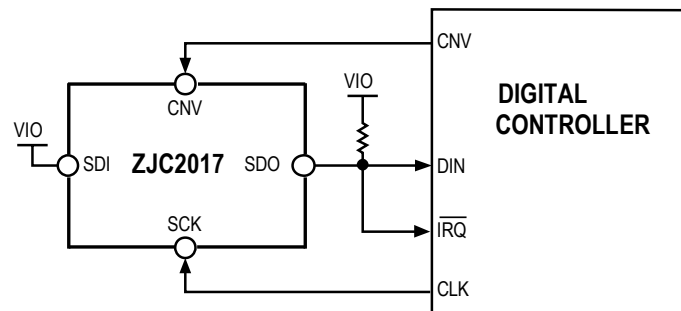
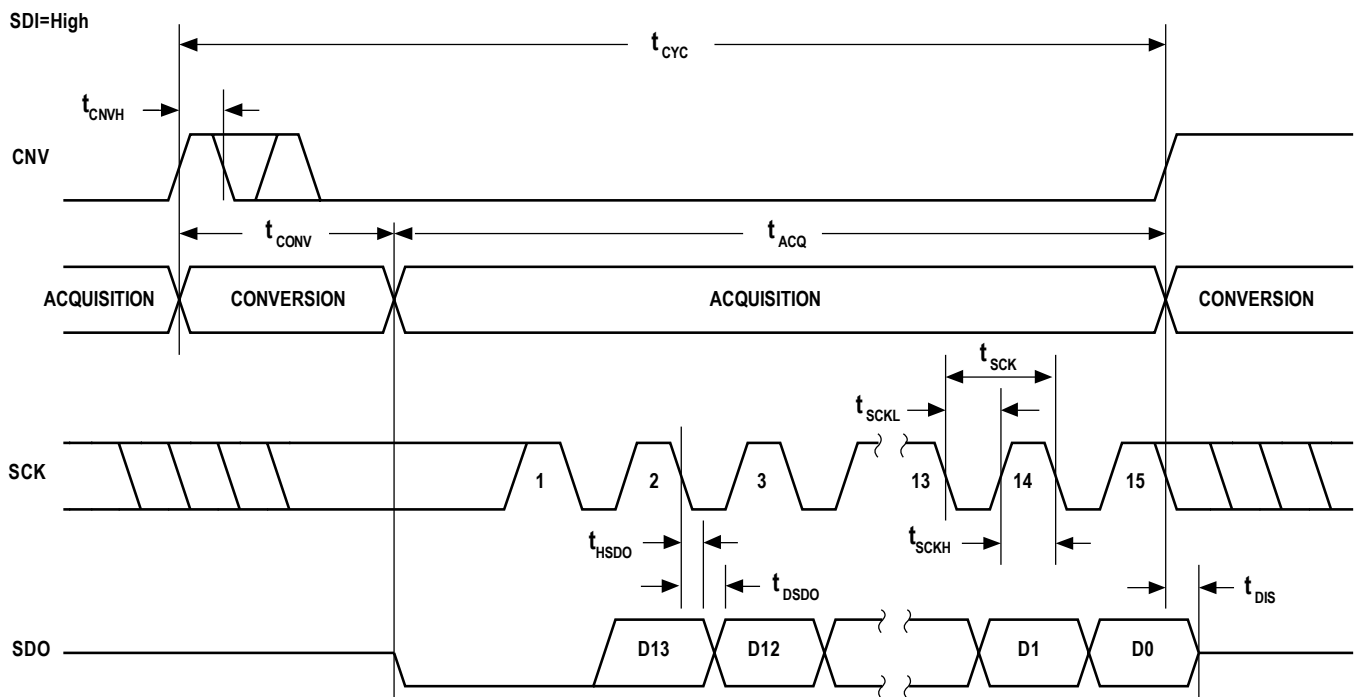
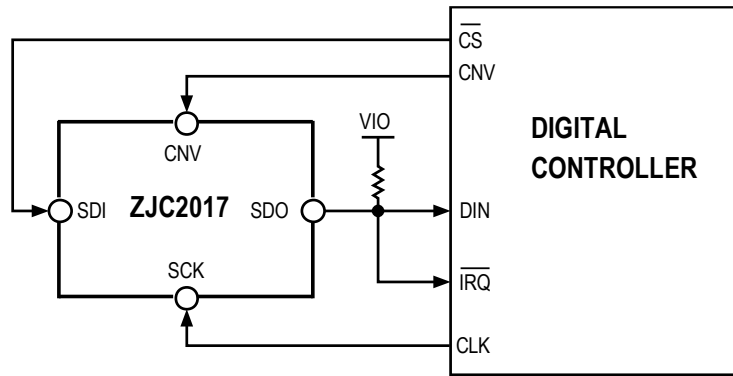
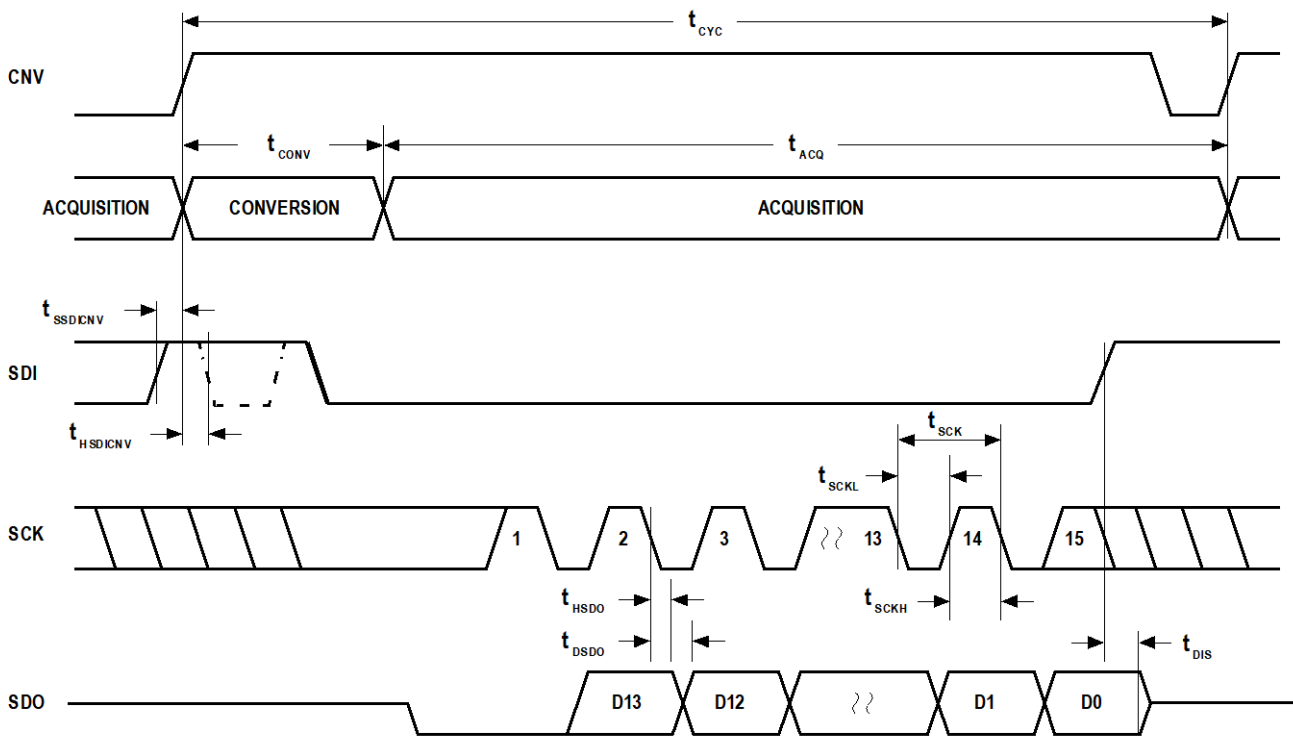

Figure 39. Chip Select Mode (three-wire type with busy indication) Connection Diagram
Figure 40. \overline{CS} Mode (3-Wire with Busy Indication) Serial Interface Timing
Figure 43. \overline{CS} Mode (4-Wire with Busy Indication) Connection Diagram
Figure 44. \overline{CS} Mode (4-wire with Busy Indication) Serial Interface Timing
- In $\overline{\text{CS}}$ mode, CNV or SDI is low at the end of ADC conversion (see Figure 40 and Figure 44).
This mode can be used when a single ZJC2017 is connected to an SPI-compatible digital host with an interrupt input. The connections are shown in Figure 39 and the corresponding timing is shown in Figure 40.
The connection is shown in Figure 43 and the corresponding timing is shown in Figure 44.